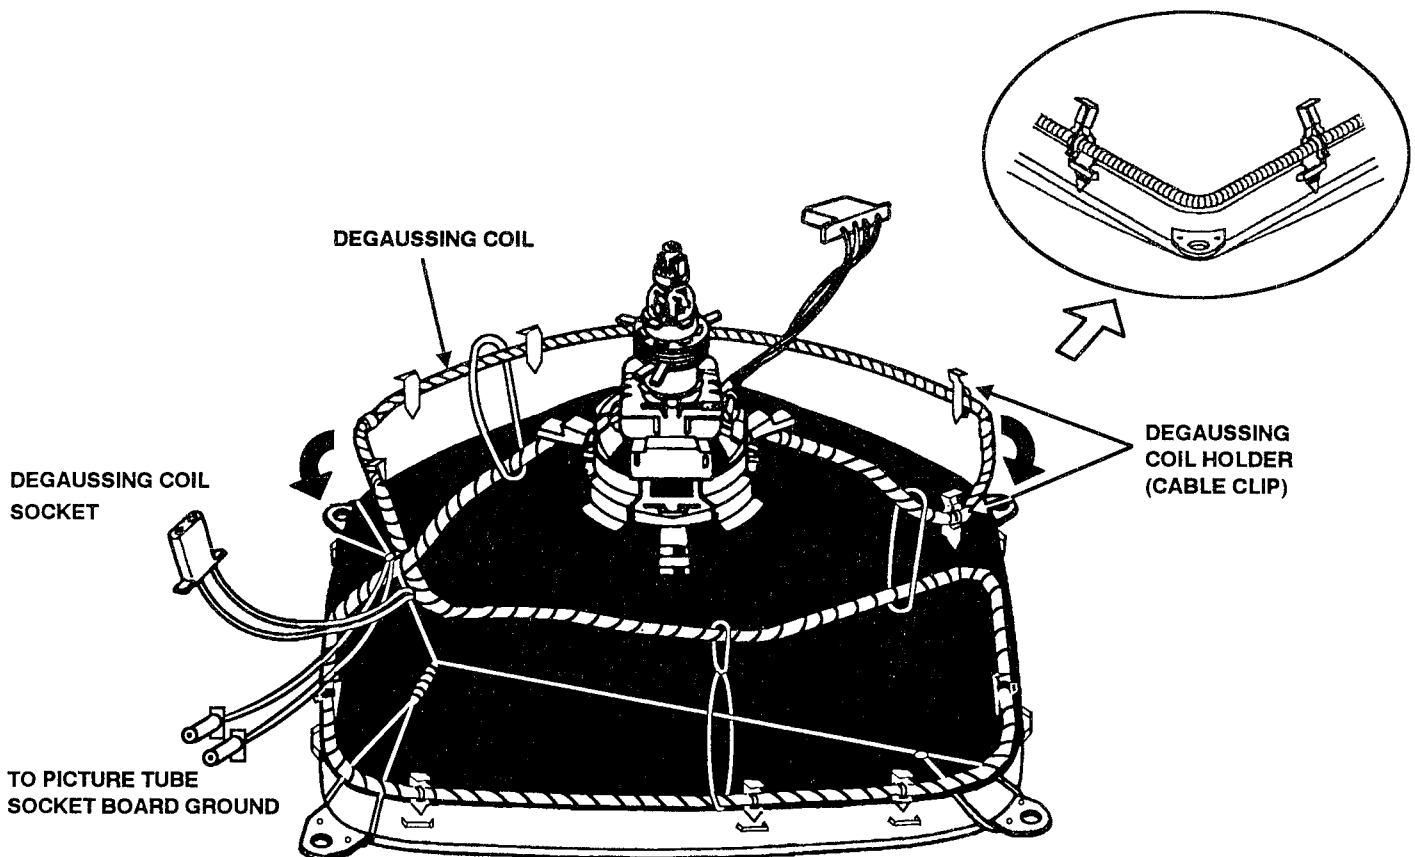

Figure 2. Picture Tube Replacement
4. Install a replacement picture tube in reverse order. Properly install the degaussing coil and picture tube grounding lead on the picture tube. See Figure 2.
**Note:** If Picture Tube is being replaced, mount the Degaussing Coil properly on the tube. See Figure 2.